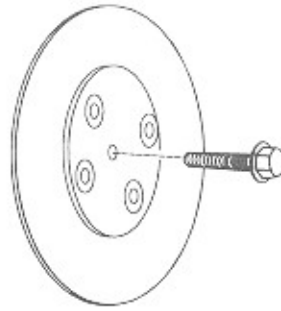

Figure 1-3. Shipping Bolt Removal
1. Remove the CD changer mechanism shipping bolt from the back of the phonograph cabinet (See Figure 1-3).